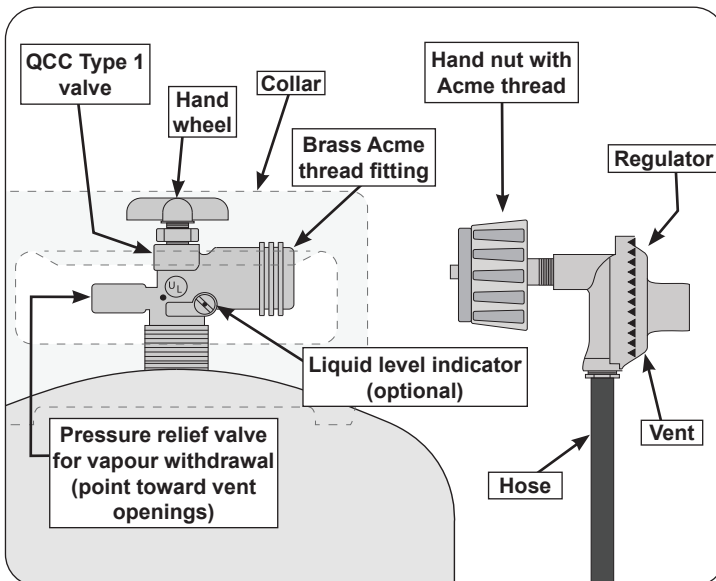

Fig. 7-1 Type I Acme thread coupler
- The cylinder used must include a collar to protect the cylinder valve. The cylinder supply system must be arranged for vapour withdrawal. See Fig. 7-1.
- When used with a cylinder, the gas supply system must be used with a pressure regulator. The pressure regulator and hose assembly (**not supplied**) used must match the specification for Type I by ANSI Z 21.58/CGA 1.6 and must comply with UL 144 as a part of the self-contained LP gas supply system (see Fig. 7-1).